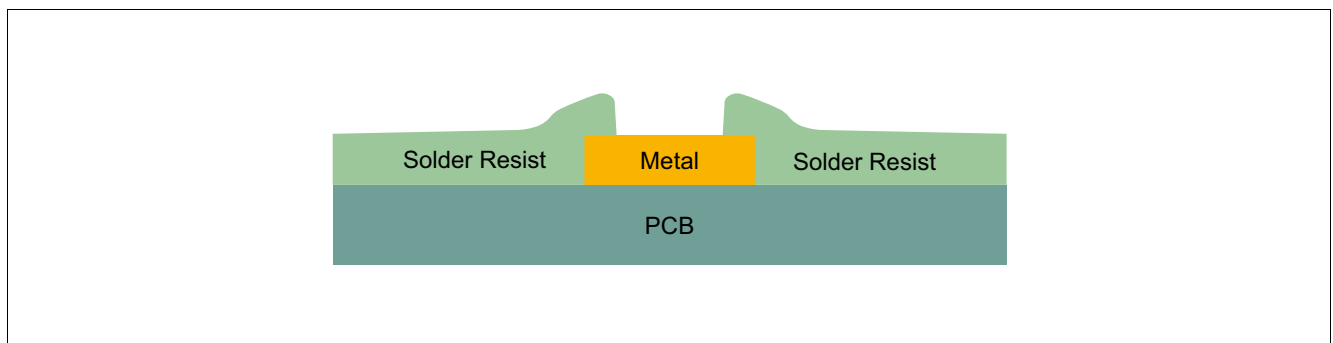

Figure 3 SMD Pad
- “Solder mask defined” (SMD) pad (Figure 3): The copper pad is larger than the solder mask opening above this pad. Thus the land area is defined by the opening in the solder mask.